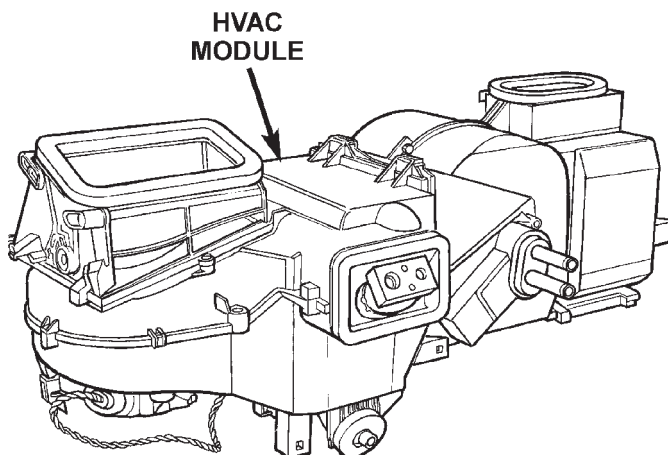

**Fig. 35 A/C Housing**
(1) Disconnect battery negative remote cable.
(2) Remove A/C housing from vehicle (Fig. 35). Refer to Heater-A/C Housing Removal and Installation in this section for procedure.